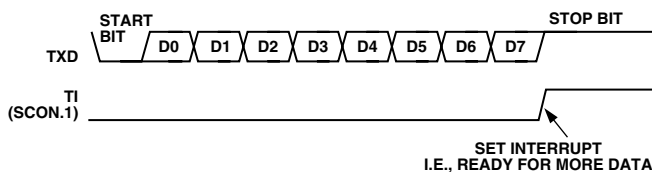

Figure 33. UART Serial Port Transmission, Mode 1
Transmission is initiated by writing to SBUF. The “write to SBUF” signal also loads a 1 (stop bit) into the ninth bit position of the transmit shift register. The data is output bit by bit until the stop bit appears on TXD and the transmit interrupt flag (TI) is automatically set as shown in Figure 33.